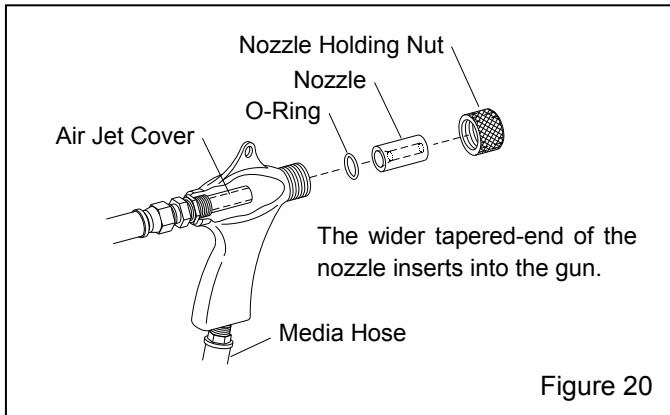

Figure 20
7.2 BNP Gun Assembly, Figure 20